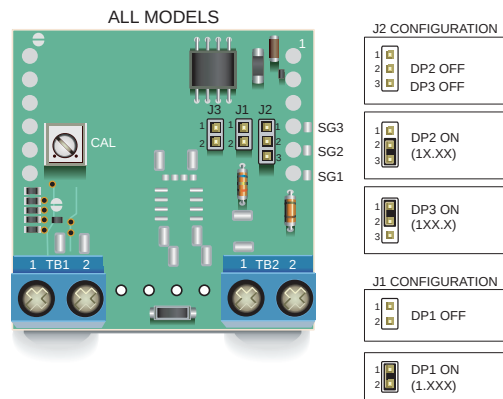

Figure 7. Decimal Point Selection Using J2 and J1 (Applies to All Models)
- Decimal Point Selection:** As shown in the Ordering Information guide, DCA5-20PC ammeters are multiple input-range devices. For example, with a 50mV input, DCA5-20PC-1-DC1 models can be configured to display "5.00", "50.0", or "500" Amps by simply removing or relocating decimal-point-selector jumper J2 (see Figure 7). Decimal points serve as placeholders only; they have no affect on displayed accuracy or resolution. If jumper J2 is not available, solder gaps SG1, SG2, or SG3 can be used to select DP1 ("1.XXX"), DP2 ("1X.XX"), or DP3 ("1XX.X"), respectively.